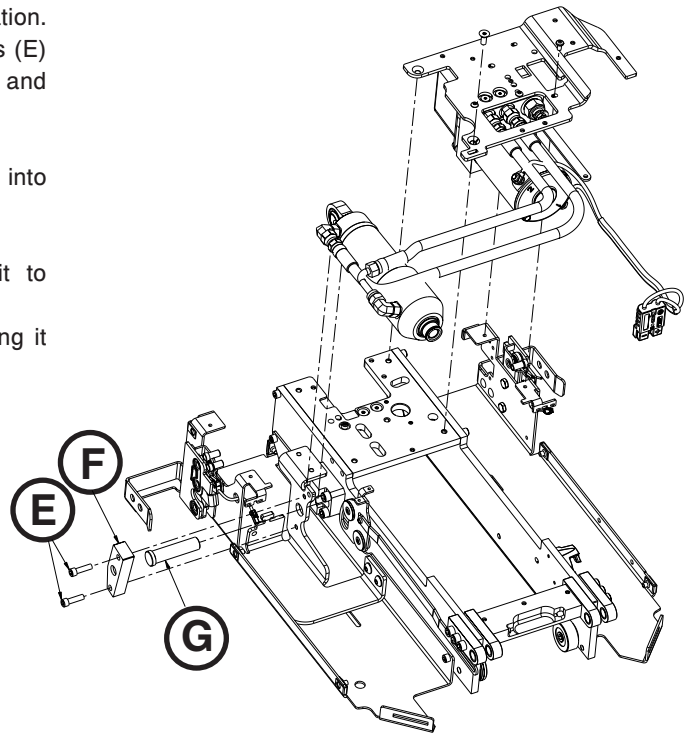

Figure 85
10. Using a 3/16" hex wrench, remove the two screws (E) that secure the cylinder bracket (F) to the trolley and remove the end cap cylinder pin (G) (Figure 85).